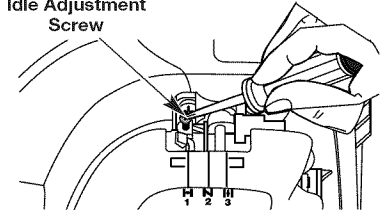

Fig. 29
The idle speed of the engine is adjustable. An idle adjustment screw is between the air filter cover and the engine starter housing (Fig. 29).
- Release the throttle trigger and let the engine idle. If the engine stops, insert a small Phillips screwdriver in between the air filter cover and the engine cover (Fig. 29). Turn the idle speed screw in, clockwise, 1/8 of a turn at a time (as needed) until the engine idles smoothly.